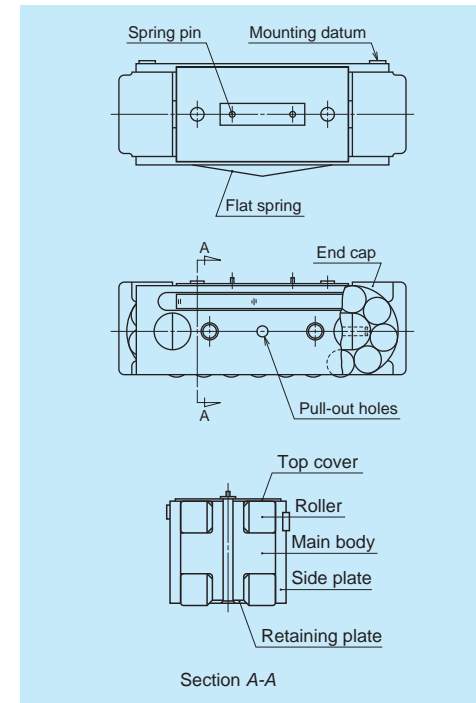

Fig. 1 Roller pack
A roller pack comprises a main body which supports load from the guide way block via two rows of rollers; an end cap which changes the direction of the recirculation of rollers at the end of the main body; a side plate which guides the rollers. (Fig. 1). Roller pack is one of the linear rolling guides, where rollers are allowed to re-circulate infinitely.
- In case of heavy load, the roller pack could not be pulled out by the above method. Hook a tool to the pull-out hole (Fig. 1) on the side plate of the roller pack, and pull out the roller pack.